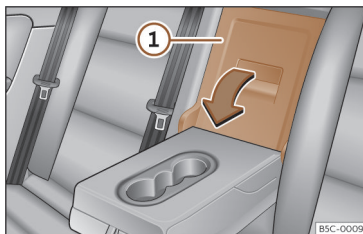

Fig. 168 On the rear seat backrest: opening the tailboard.
- Pull the release lever in the direction of the arrow and push the tailboard cover >>> **Fig. 168** ① down and forwards.